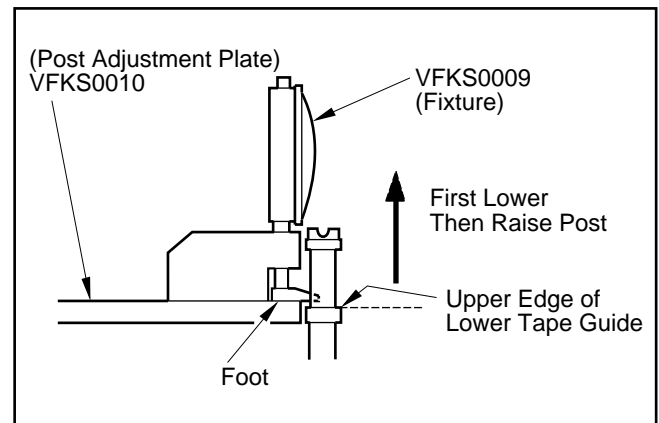

Fig. M11-2
2. First, lower all posts to match the height condition as shown in Fig. M11-2.
3. Place the fixture on the Post Adjustment Plate and fit the foot to the Adjustment Plate as shown in Fig. M11-2. (The foot of the fixture should be fully lowered until it touches the plate.)